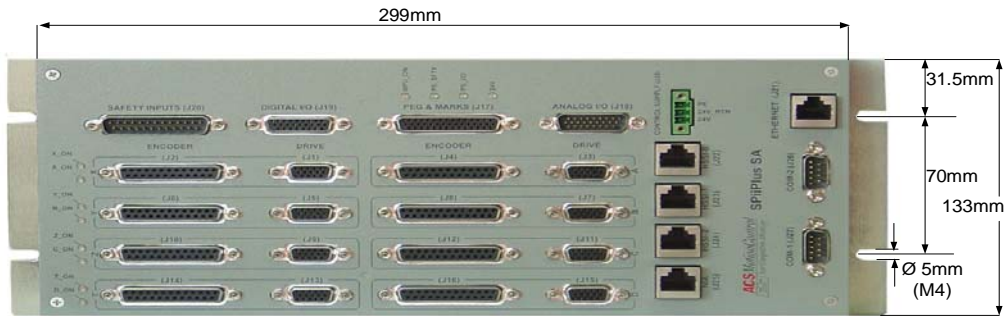

Figure 5 Front Panel Dimensions
- ❑ Figure 5 - Front Panel Dimensions
For front panel dimensions, refer to Figure 5.